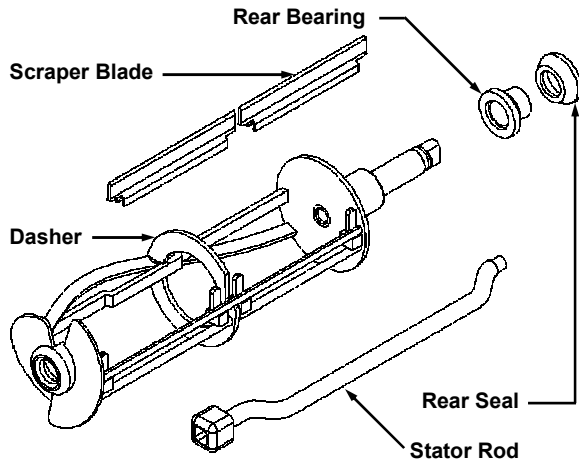

Fig. 10
9. Remove the dasher assembly (Fig. 10) being careful not to damage the scraper blades, then disassemble in the following manner:
- c. Remove the blades from the dasher (Fig. 10) by first rotating blade upward (Fig. 11) and then unsnapping one end from the support rod.